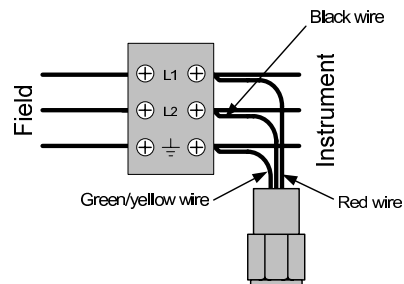
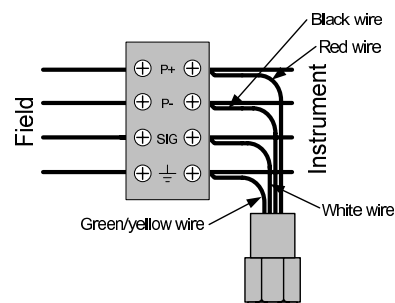

Figure 3: Wiring of IS-SLT1 models
Figure 4: Wiring of IS-SLT3 models
- 3.5 **Wiring:** Signal line protectors are shunt connected in parallel with the equipment (Figure 3 & Figure 4).
Signal pairs should be connected to the red and black wires for the IS-SLT1 versions (Figure 3). For IS-SLT3 versions the white wire should be connected to the signal terminal (Figure 4).